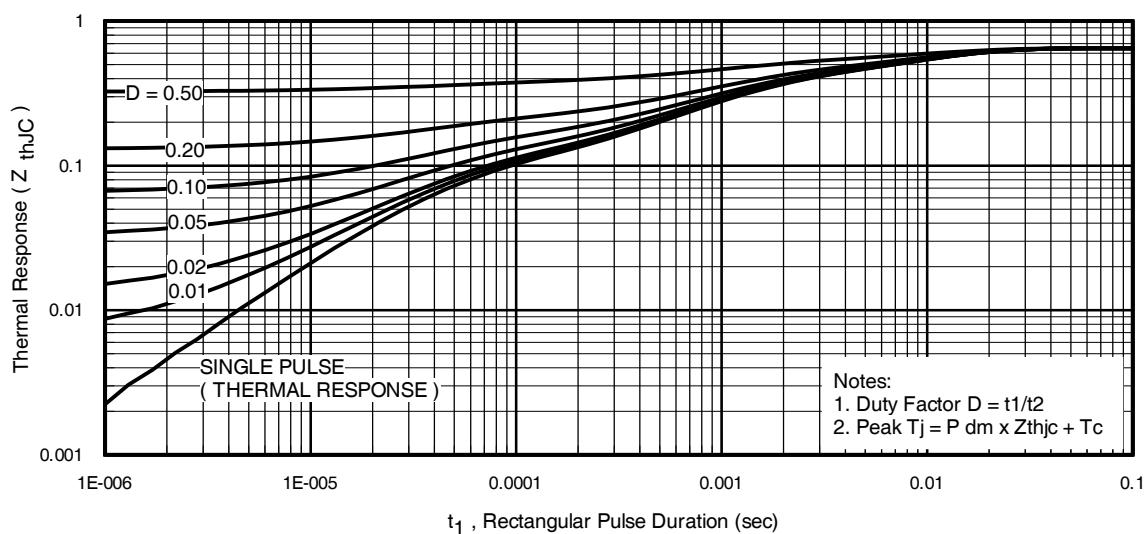
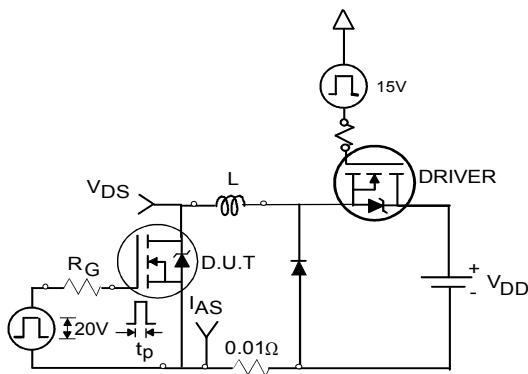

Fig 11. Maximum Effective Transient Thermal Impedance, Junction-to-Case
Fig 12a. Unclamped Inductive Test Circuit
- ① Repetitive rating; pulse width limited by max. junction temperature. (See fig. 11)
- ② Limited by T_{Jmax} , starting $T_J = 25^\circ\text{C}$, $L = 0.10\text{mH}$, $R_G = 25\Omega$, $I_{\text{AS}} = 75\text{A}$, $V_{\text{GS}} = 10\text{V}$. Part not recommended for use above this value.
- ③ Pulse width $\leq 1.0\text{ms}$; duty cycle $\leq 2\%$.
- ④ $C_{\text{oss eff.}}$ is a fixed capacitance that gives the same charging time as C_{oss} while V_{DS} is rising from 0 to 80% V_{DSS} .
- ⑤ Limited by T_{Jmax} , see Fig.12a, 12b, 15, 16 for typical repetitive avalanche performance.
- ⑥ This value determined from sample failure population, 100% tested to this value in production.
- ⑦ This is applied to D²Pak When mounted on 1" square PCB (FR-4 or G-10 Material). For recommended footprint and soldering techniques refer to application note #AN-994
- ⑧ R_θ is measured at T_J approximately 90°C
- ⑨ Calculated continuous current based on maximum allowable junction temperature. Bond wire current limit is 160A. Note that current limitations arising from heating of the device leads may occur with some lead mounting arrangements. (Refer to AN-1140)
- ⑩ All AC and DC test condition based on old Package limitation current = 75A.
3. Equation below based on circuit and waveforms shown in Figures 12a, 12b.